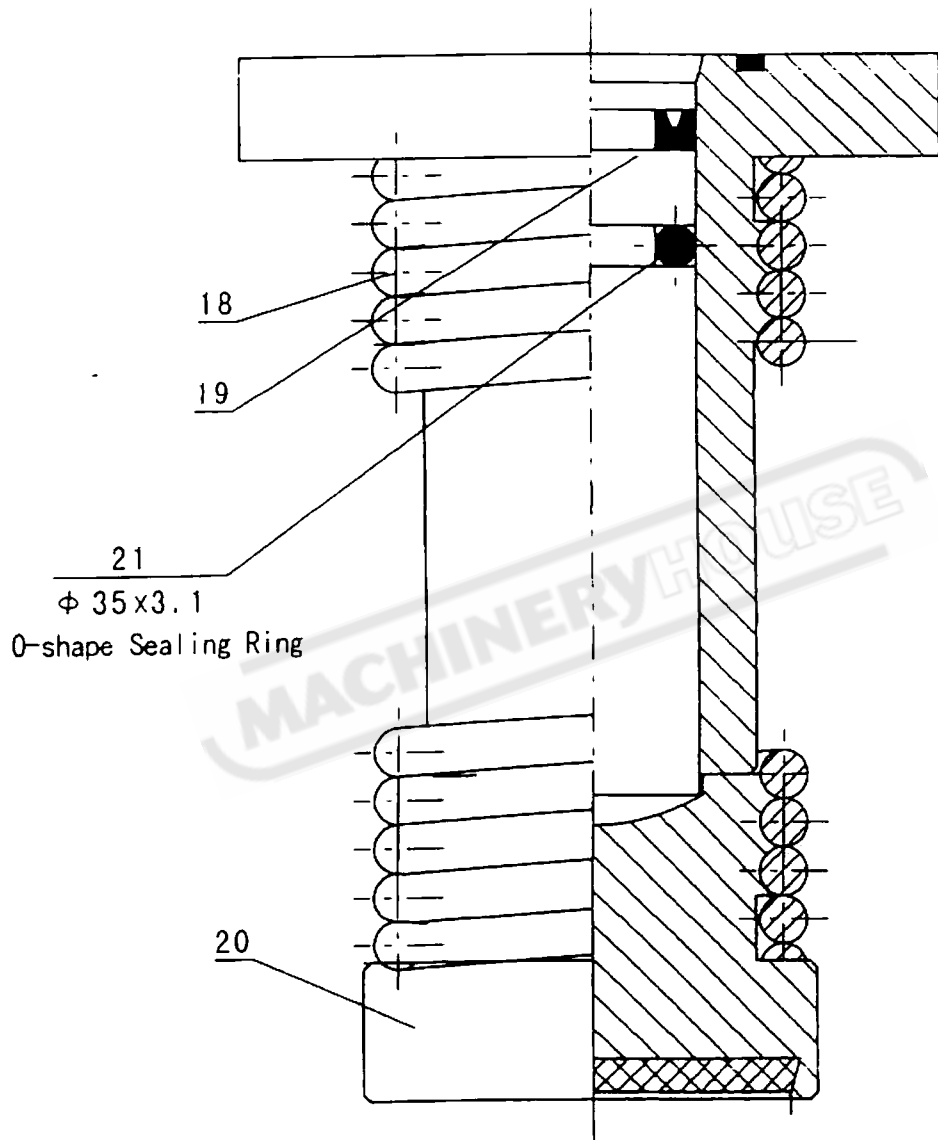

Fig 4 Swaging oil Cylinder
It is consisted of several plate-pressed oil cylinders (figure 4) which are fitted on the supporting board in front of the frame. The plate pressed head will overcome the pulling force of the spring (18) and press down after the plate-pressed oil cylinder is filled with oil. Press the plate tightly. After shearing, it will come back to its original position with the help of the pulling force of the spring. The plate pressed pressure can be increased with the thickness of the sheared plates increasing.